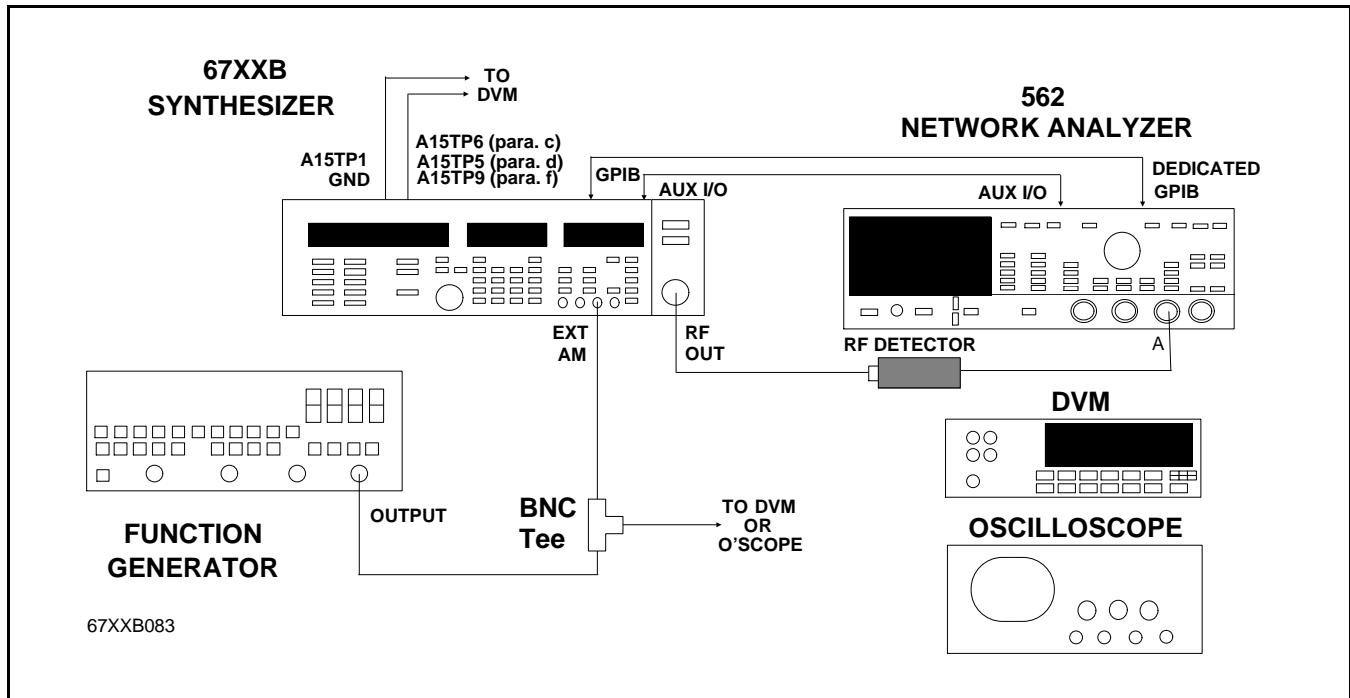

Figure 3-3. Test Equipment Setup for ALC Level Offset Adjustments
2. Connect the equipment, shown in Figure 3-3, as follows: